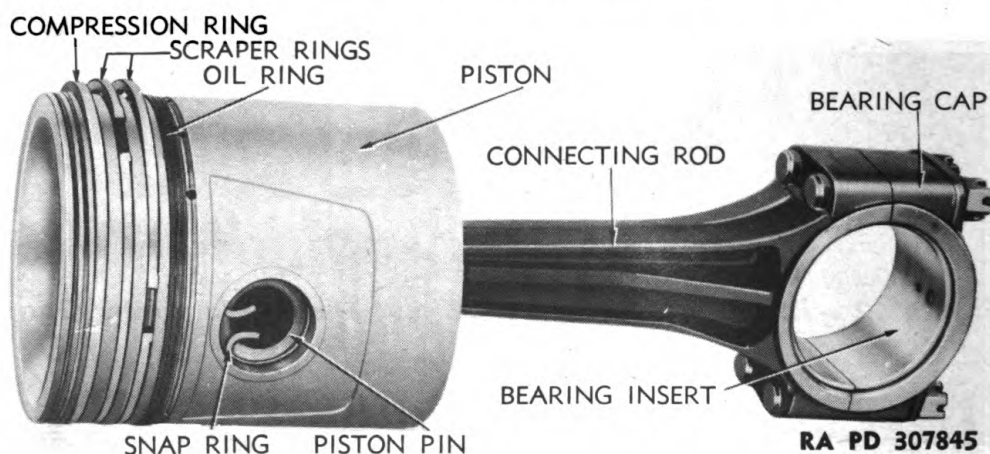

Figure 40 — Piston and Connecting Rod Assembly
f. **Disassemble Connecting Rod and Piston Assembly** (fig. 40). Spread piston rings with a piston ring expander and remove them from piston. Remove snap rings from piston at each end of piston